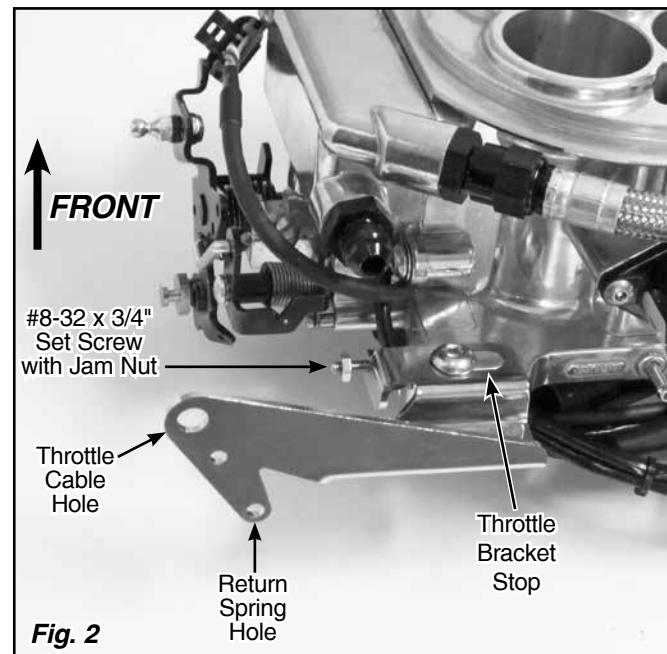

Fig. 2
Step 1: Remove the throttle body mounting bolt from the left rear corner of the throttle body. Position the Lokar Throttle Cable Bracket as shown in Fig. 2. Drop the throttle bracket stop into the unused mounting bolt hole at that corner of the throttle body base. Reinstall the throttle body mounting bolt. Snug it down finger tight, but do not fully tighten it yet.